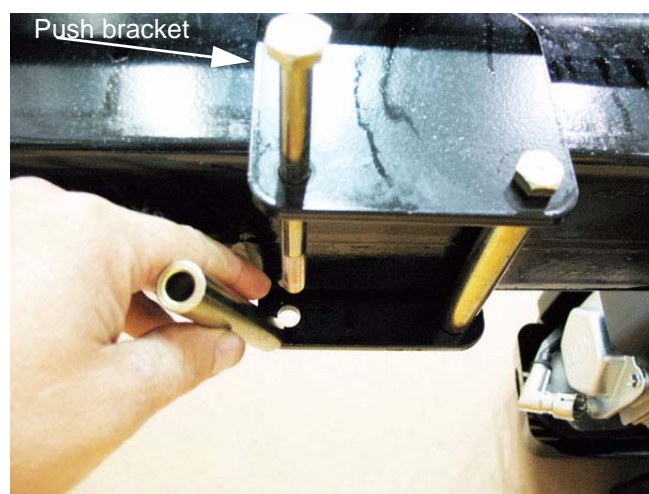

Figure 4.18
- 5.15. Unbolt the push bracket from the beam using a pair of 9/16" wrenches. See Figure 4.18.